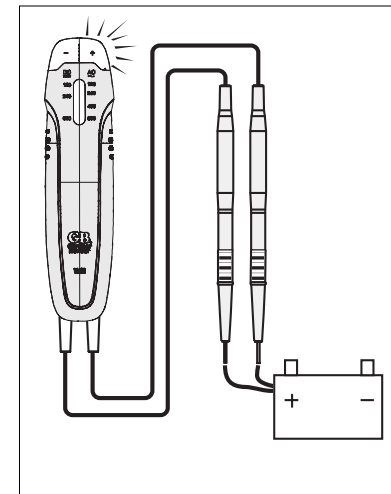

Fig. 1
4.1 Measuring DC Voltage Levels Measure the voltage by touching the test lead tips to the circuit where the value of voltage is needed. If the "+" test lead is on the positive contact the +VDC light will illuminate. If the "-" test lead is on the negative contact the -VDC light will illuminate. **Fig. 1**